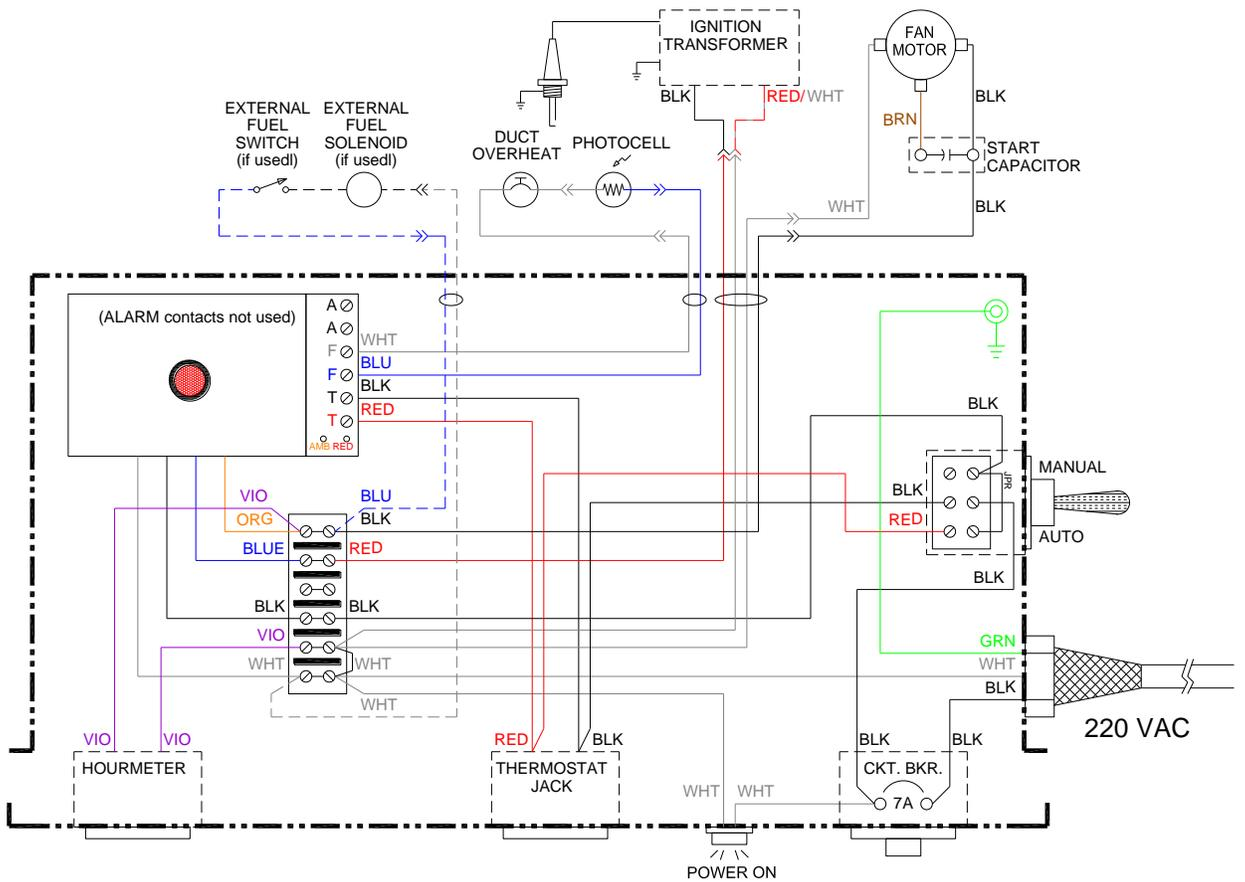

Figure 4-2. Wiring Diagram
5. The heaters have  $\frac{1}{4}$  horsepower motors and separate starting capacitor. See the wiring diagram, Figure 4-2.